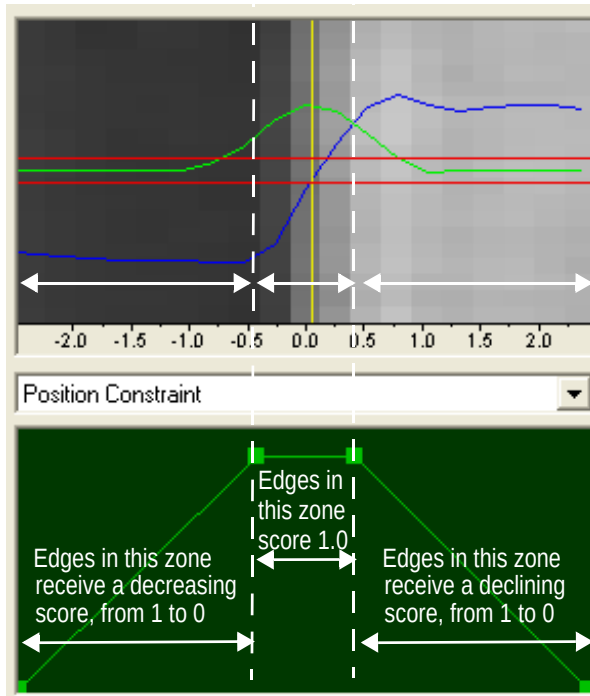

Figure 110 Position Constraint Histogram
2. Use the mouse to drag the handles in the histogram editor of the selected constraint. Set the Edge Position Constraint histogram as illustrated in Figure 110.